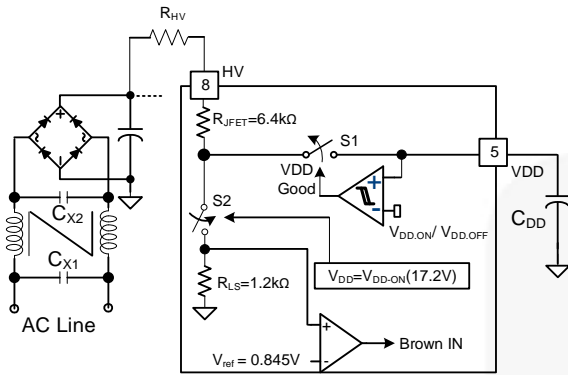
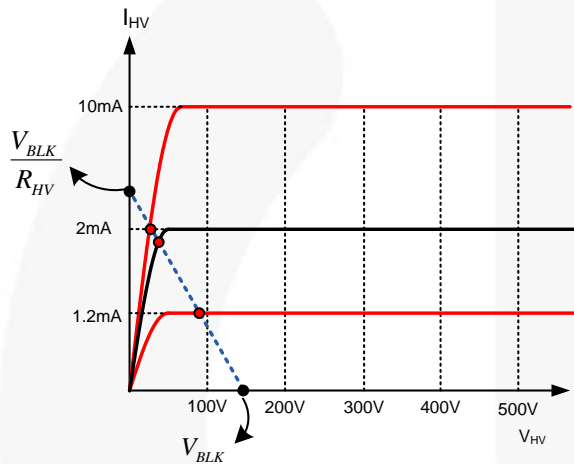

Figure 43. HV Startup Circuit
Figure 44. Characteristics of HV pin
Figure 43 shows the high-voltage (HV) startup circuit. An internal JFET provides a high voltage current source, whose characteristics are shown in Figure 44. To improve reliability and surge immunity, it is typical to use a  $R_{HV}$  resistor between the HV pin and the bulk capacitor voltage. The actual current flowing into the HV pin at a given bulk capacitor voltage and startup resistor value is determined by the intersection point of characteristics I-V line and the load line as shown in Figure 44.
During startup, the internal startup circuit is enabled and the bulk capacitor voltage supplies the current,  $I_{HV}$ , to charge the hold-up capacitor,  $C_{VDD}$ , through  $R_{HV}$ . When the  $V_{DD}$  voltage reaches  $V_{DD\_ON}$ , the sampling circuit shown in Figure 43 is turned on for  $t_{HV\_det}$  (100  $\mu$ s) to sample the bulk capacitor voltage. Voltage across  $R_{LS}$  is compared with reference which generates a signal to start switching. If brown-in condition is not detected within this time, switching does not start. Equation (9) can be used to program the brown-In of the system. If line voltage is lower than the programmed brown-In voltage, FAN602L goes in auto-restart mode.